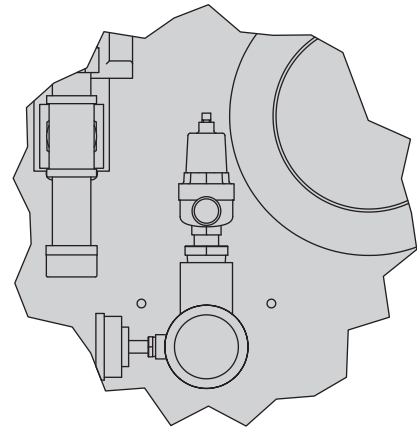

FIGURE 2 - SAFETY VALVE
1. The safety relief valve (Figure 2) must: